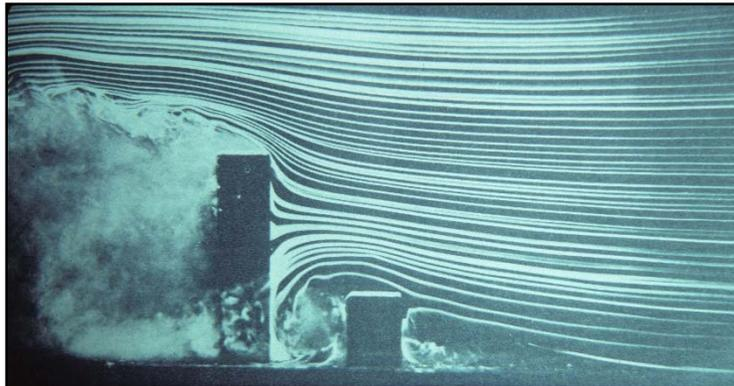

Figure 4. Example _____ wind flow around two building structures².
- 4) For **wind flows around buildings**, the Reynold's Number is very large and thus the flow can be described a _____. An example is shown in Figure 4.
2) Geometric Representations of the Velocity Field (refer to Figure 4):